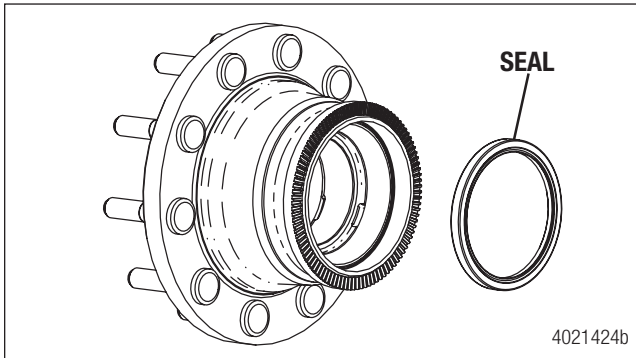
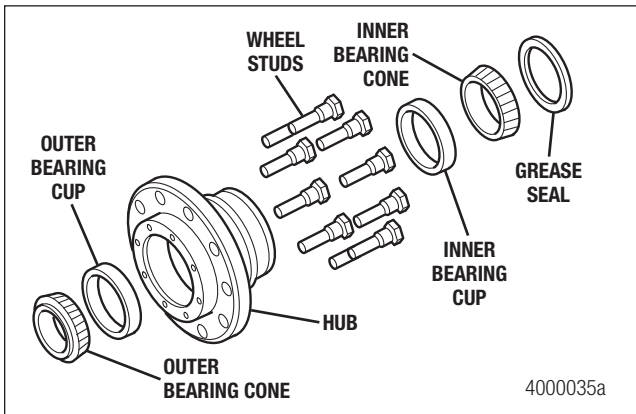

Figure 4.11
Figure 4.12
2. Use a suitable tool to remove the grease seal from the hub. Discard the grease seal. Figure 4.11 and Figure 4.12.
4. Remove the inner bearing cone from the hub. Figure 4.12.
5. Remove the inner and outer bearing cups from the hub with a press and sleeve or a bearing puller. Figure 4.12.